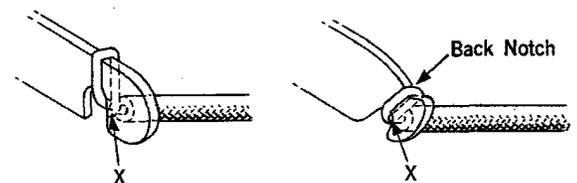

Fig. 3 - Termination of Wire on Protector (Notch on Under Side of Terminal)
8.04 To terminate a wire on the terminal of a protector where the notch appears on the under side of the terminal, as shown in Fig. 3, bring the wire under the terminal, up through the notch, along the front of the terminal, over the top edge, or through the back notch where provided, and down the rear side, making one complete turn of bare wire around the terminal. Cut or break the excess wire at point "X".